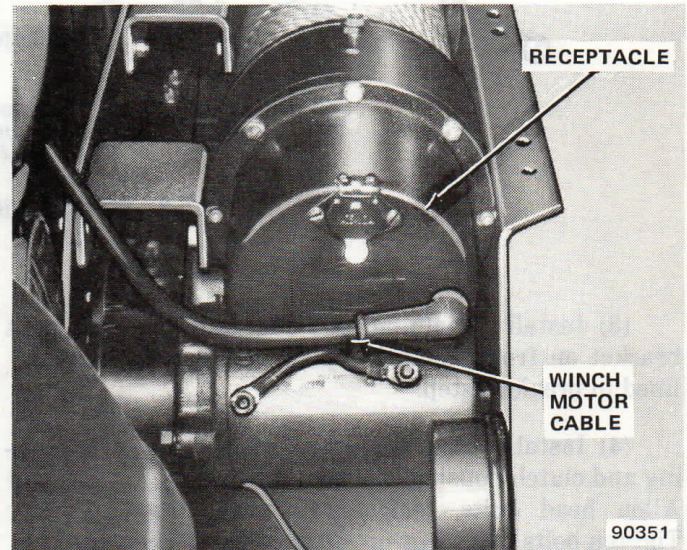
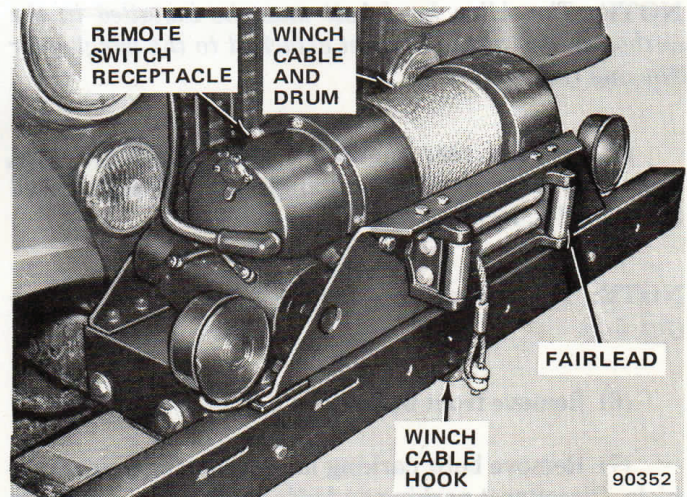

Fig. 5-5 Connecting Winch Motor Cable
Fig. 5-6 Winch Cable Installation
end to battery cable clamp bolt attached to positive (+) post of battery (fig. 5-5).
(20) Insert winch cable through fairlead rollers and into cable recess in winch drum. Tighten setscrew in recess to secure cable in drum.
(21) Install fairlead on front mounting plate using  $3/8 \times 1-1/4$  bolts, lockwashers and nuts. Tighten nuts to 18 foot-pounds (24 N•m) torque.
(22) Plug winch remote control switch into receptacle on winch motor (fig.5-5). Check connections by operating winch forward and reverse.
(23) Start and operate engine at fast idle speed and wind winch cable onto drum. Wind cable onto drum in even layers and maintain load on cable during winding process. Stop winding cable onto drum when approximately 18-24 inches of cable still extends out of fairlead.
(24) Attach winch cable hook to front bumper (fig. 5-6), and tighten cable just enough to secure cable hook on bumper.
(25) Disconnect remote control and place in vehicle glove box.